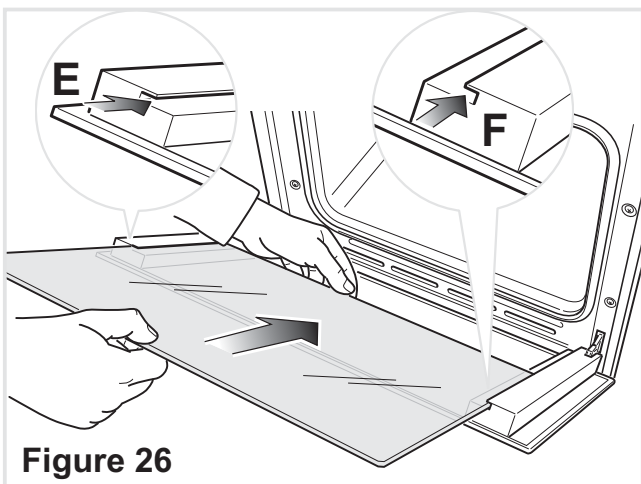
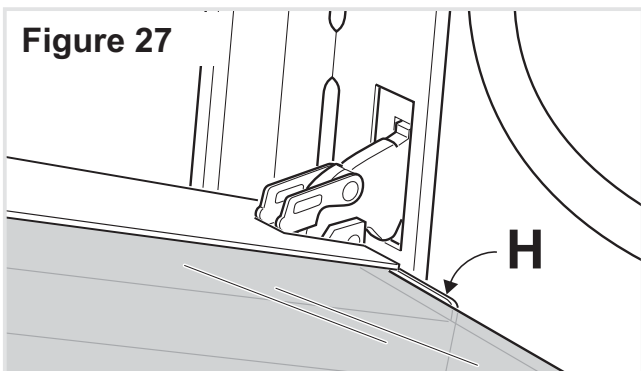

Figure 26
Figure 27
- Insert the pane in the left "E" and right "F" slide guides (fig. 26), and gently slide it to the retainers "H" (fig. 27).